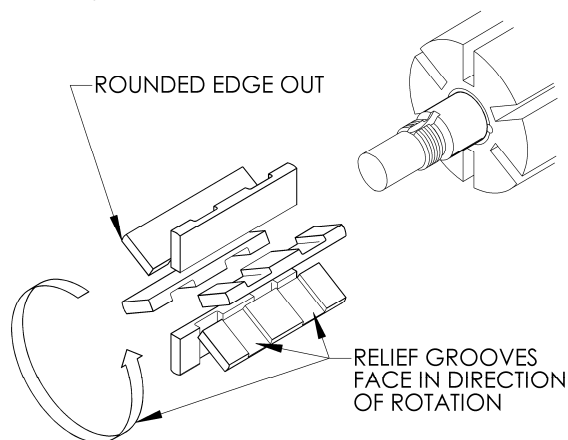

Figure 8 – Vane Installation
3. Turn the shaft by hand until a vane (14) comes to the top (12 o'clock) position of the rotor. Remove the vane.
4. Install a new vane (14), ensuring that the rounded edge is UP, and the relief grooves are facing towards the direction of rotation. See Figure 8.
10. Remove the vanes (14) and push rods (77) from the rotor and shaft assembly. Inspect for wear and damage, and replace as follows:
- b. Partially install the non-driven end of the rotor and shaft (13) into the open side of the pump casing (12).
- c. Leave part of the rotor outside of the casing (12) so that the bottom vanes (14) can be installed and held in place as the push rods (77) are installed in the push rod holes of the rotor. Insert the new vanes into the rotor slots with the rounded edges outward, and the vane relief grooves facing TOWARDS the direction of rotation. See Figure 8.
- d. After the bottom vanes and push rods are installed, carefully insert the rotor and shaft (13) fully into the casing (12) and through the installed head (20).
- e. Install the remaining vanes (14) into the top positions of the rotor.
11. Install the inboard head with O-ring (72) , mechanical seal (153), disc (71) and bearing (24) as instructed in steps 3 through 8.
12. Rotate the shaft by hand to engage the mechanical seal drive tangs, and to test for binding or tight spots. If the rotor does not turn freely, lightly tap the rims of the heads with a soft faced mallet until the correct position is found. Install all of the remaining head capscrews (21) for each head (20) and uniformly torque to 30 lbs ft (40.7 Nm).